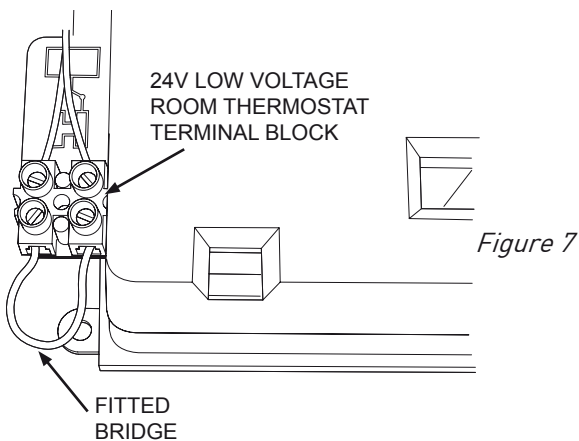
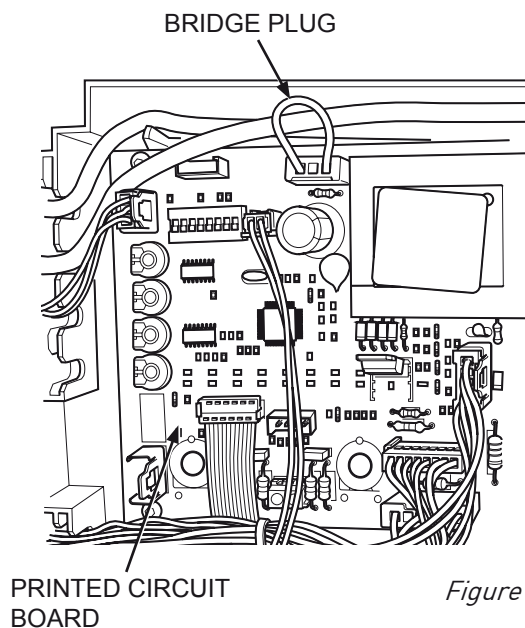

Figure 7
Figure 8
Warning: On no account must any external voltage be applied to any of the terminals on the heating control connection plug. Figure 7
located to behind of left side of the plastic cover (*figure 7*). On connection of a voltage free room thermostat to the boiler, the factory fitted bridge across the room thermostat terminal connectors must be removed. If a mains voltage thermostat is to be used please refer to *figure 8*.
9.5 Mains powered thermostats must be connected directly to the mains circuit board as indicated in *Figure 8*. Cut the existing link and connect the wires into the thermostat circuit.